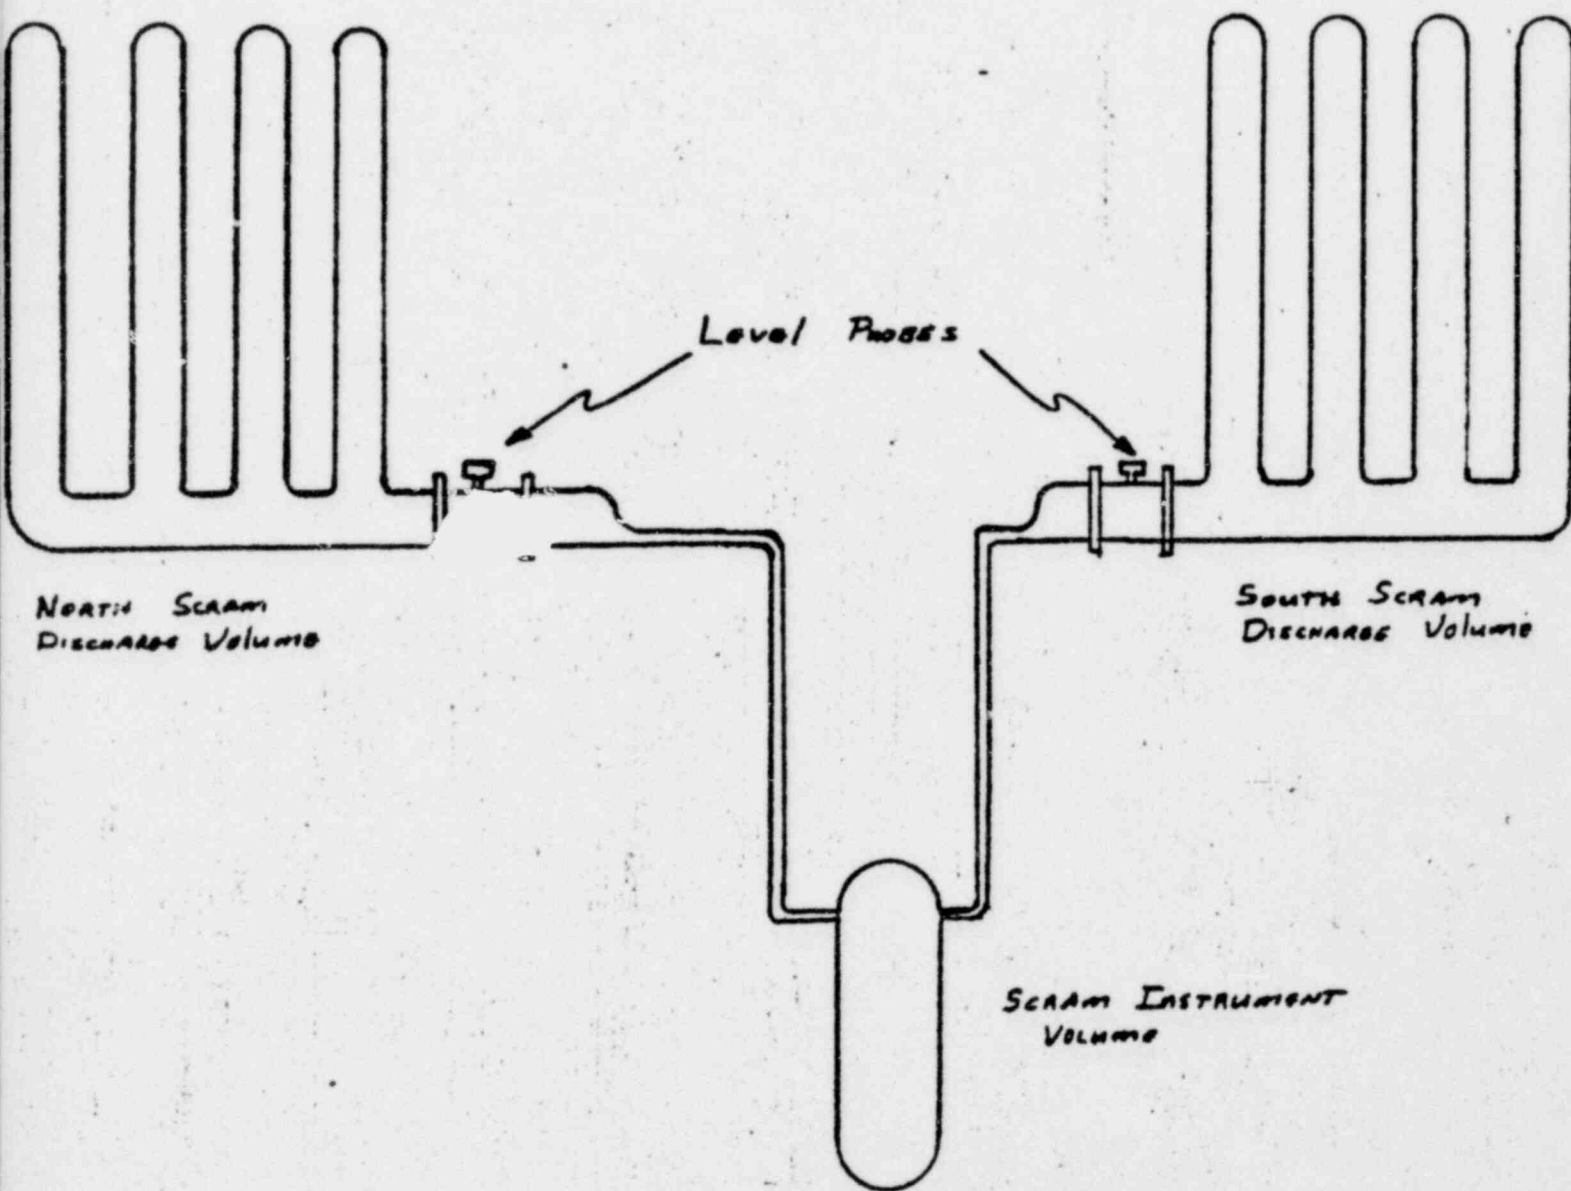

FIGURE 1
The level monitoring system installed consists of two (2) independent level monitoring systems manufactured by Drexelbrook Engineering Company. Each system monitors one of the scram discharge volumes (see Figure 2). The systems use capacitance probes for level detection. One probe is mounted in each scram discharge header at the lower point of the common header (see Figure 1). This probe provides an output signal to a Drexelbrook transmitter which varies proportionally with the level in the SDV. The transmitter in turn provides 1) local indication, 2) remote indication on Control Room Panel 9-5, and 3) an output signal to the SETCON controller which gives an alarm on Control Room Panel 9-5. It is anticipated that the alarm will be set at 10% which will correspond to approximately 0.6 inches.